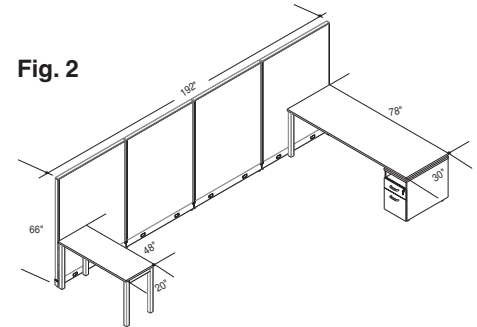

Fig. 3
- The minimum Trig Desk size is 48"W x 30"D if parallel-mounted desk connections are the only panel connections used on one side of the panel run. If the desk depth is less than 30", then a third panel support is required on the back side of the panel run (Fig 3).